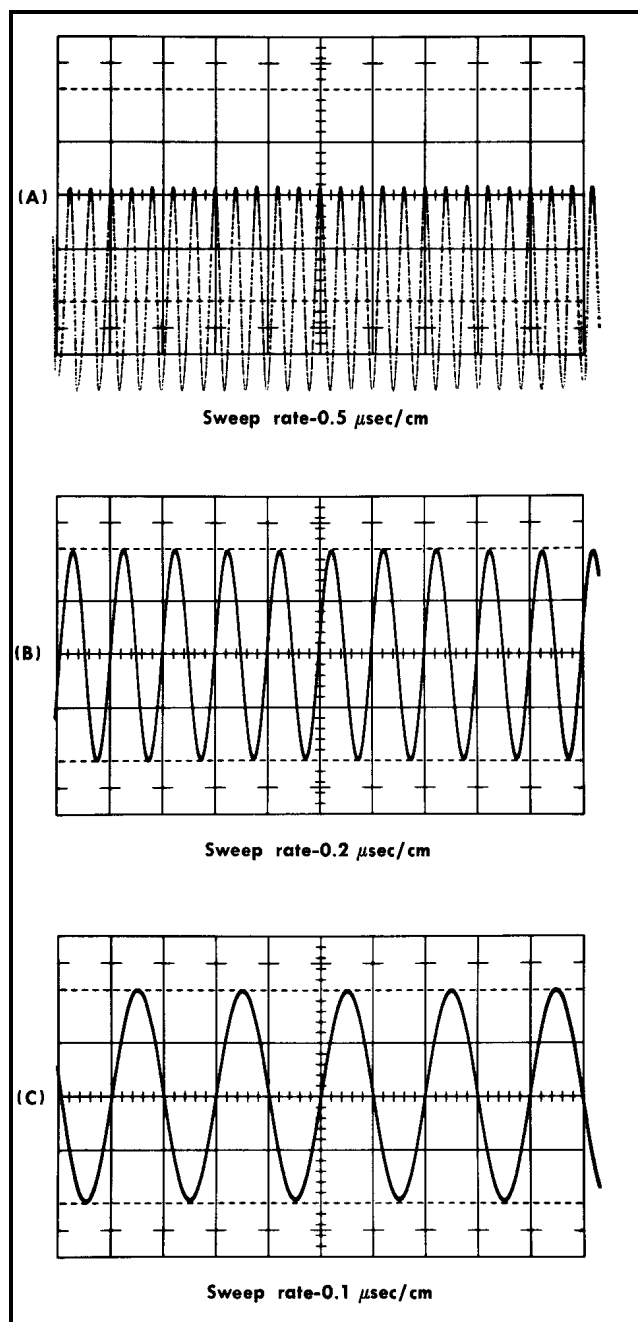

Fig. 5-54. Typical indicator oscilloscope displays for checking 1-2-5 timing ratio with a 5 Mc sine wave.
j. Check the 1-2-5 ratio as indicated in Table 5-1 and Fig. 5-54. Timing of each sweep rate should be within 1% (0.08cm) over the center 8cm of the graticule, and timing of the 3 rates should be within 1% of each other.